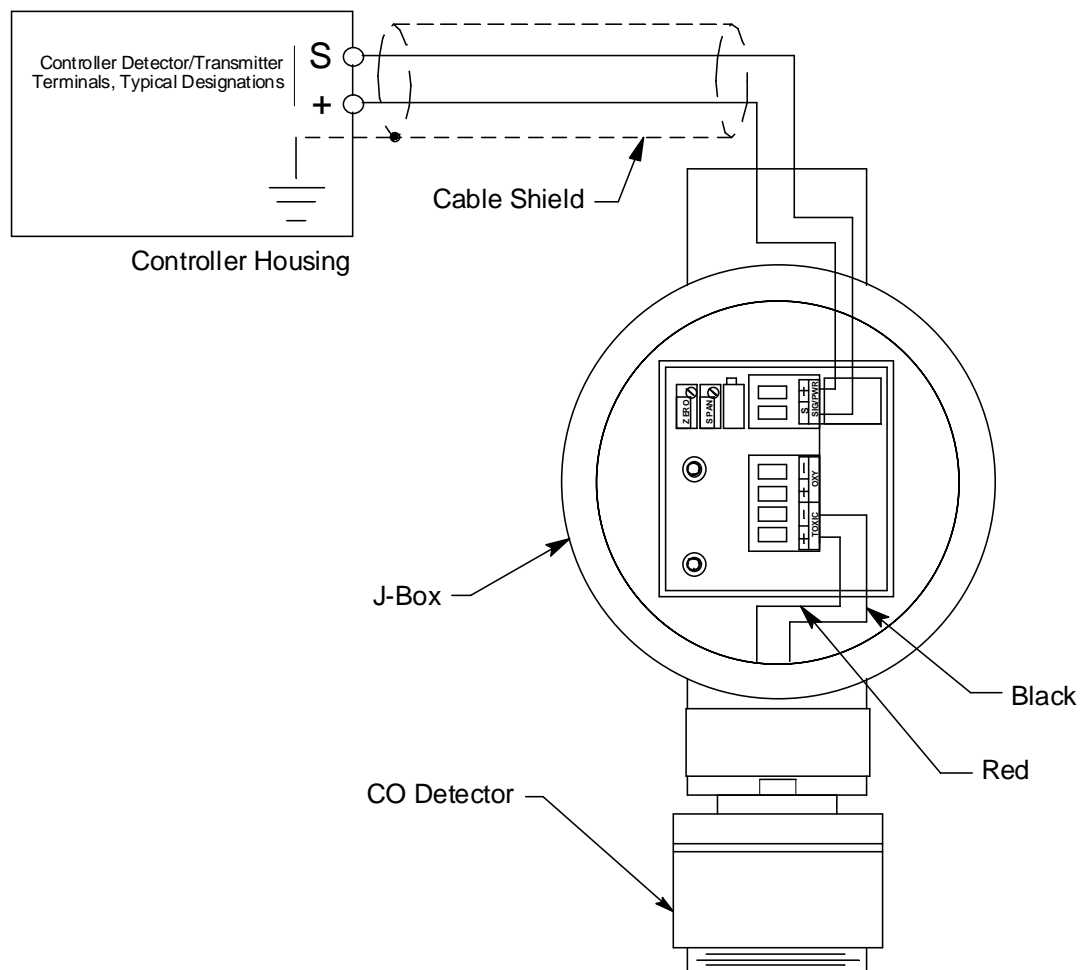

Figure 4: Wiring the CO Transmitter to a Controller
4. The detector leads are factory wired. Verify that the detector leads are wired to the amplifier's detector terminal strip as shown in Figure 4.
7. Pull out the controller terminal strip, and connect the two wires to the terminal strip as follows (see Figure 4).
11. Connect the wires to the applicable detector/transmitter terminal strip at the controller as shown in Figure 4.